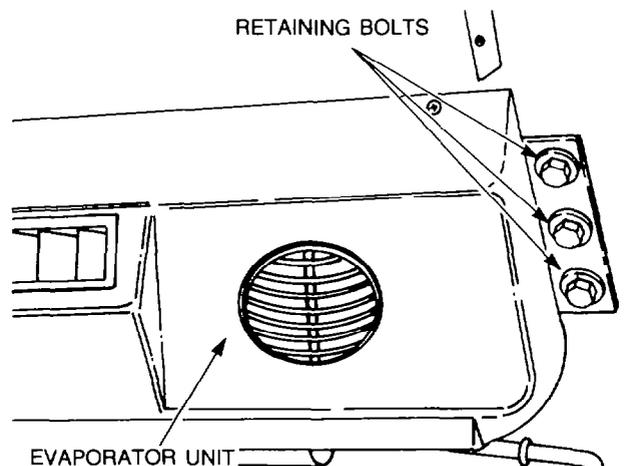

Figure 38 — Evaporator Unit — Removal
- d. Support the evaporator, then remove the six nuts and washers securing the evaporator unit to the module ceiling (see Fig. 38) and remove the evaporator unit.